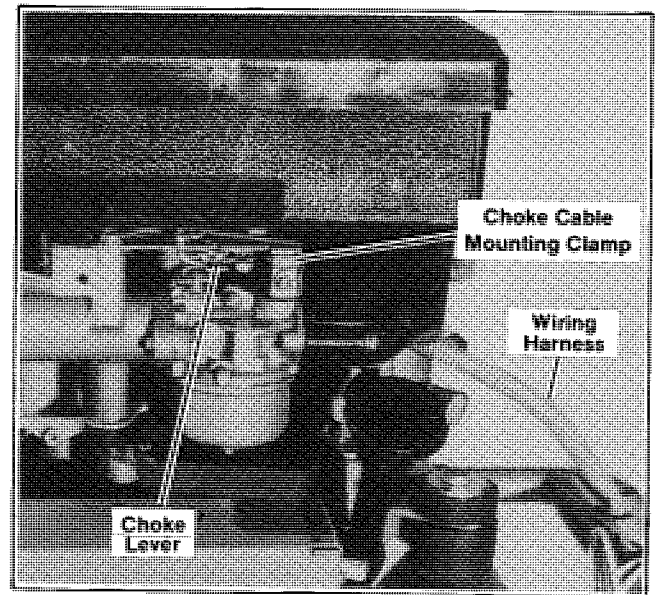

Figure 30. Start Panel Connections
1. With remote panel mounted in coach, loosen screw on mounting clamp and slide cable under clamp. See Figure 30.